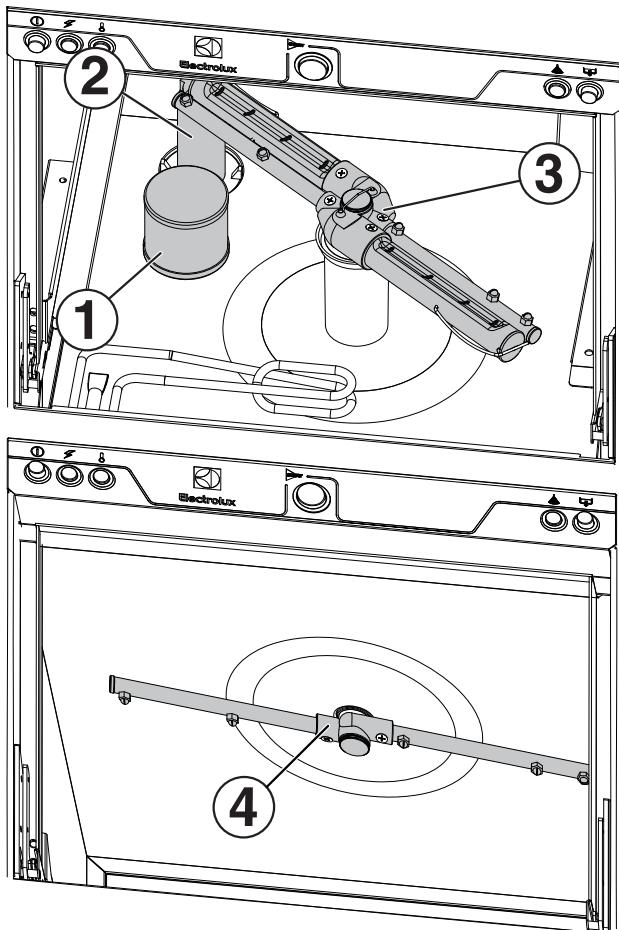

Figure 10 Pump filter, overflow and wash arms
Make sure the pump filter "1", overflow "2" and the upper and lower wash and rinse arms "3, 4" are correctly fitted (Figure 10).
Depending on the model, make sure also the tank filter (5) is correctly fitted (Figure 10).